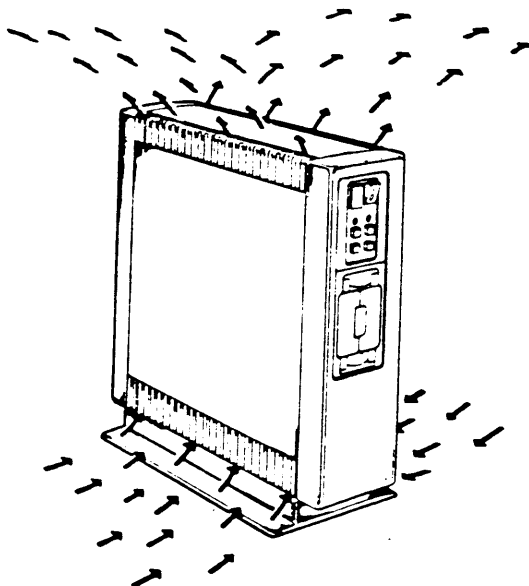

FIGURE 2-1. Proper air flow for the BA23 enclosure
- o Allow space around the unit for air circulation and servicing. Figure 2-1 shows proper air flow.